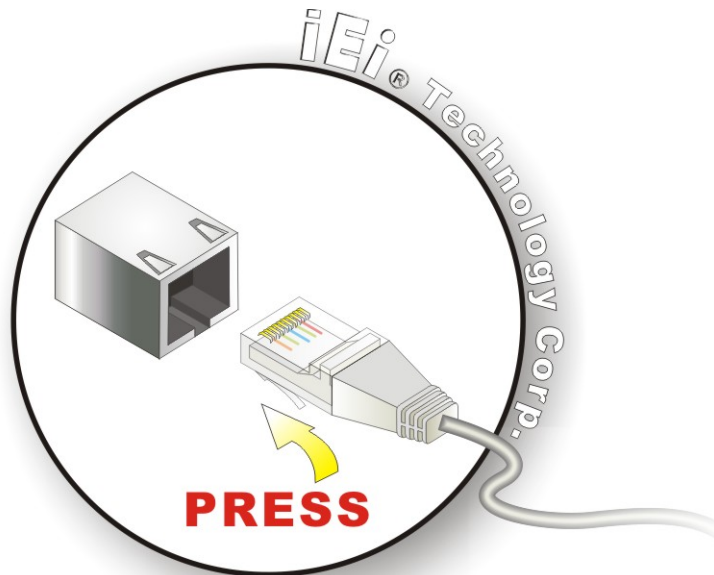

Figure 4-12: LAN Connection
Step 2: Align the connectors. Align the RJ-45 connector on the LAN cable with one of the RJ-45 connectors on the WSB-PV-D4251/D5251. See Figure 4-12.